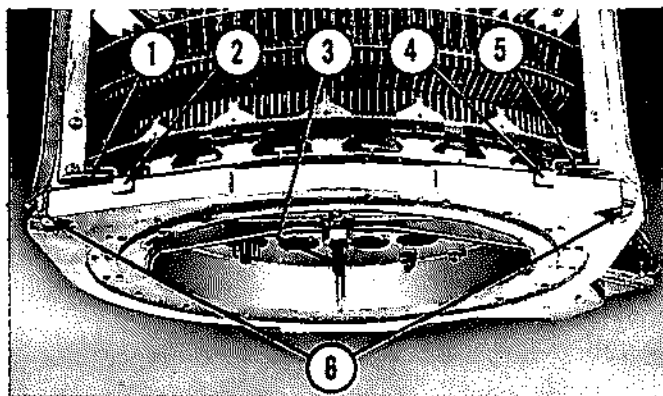
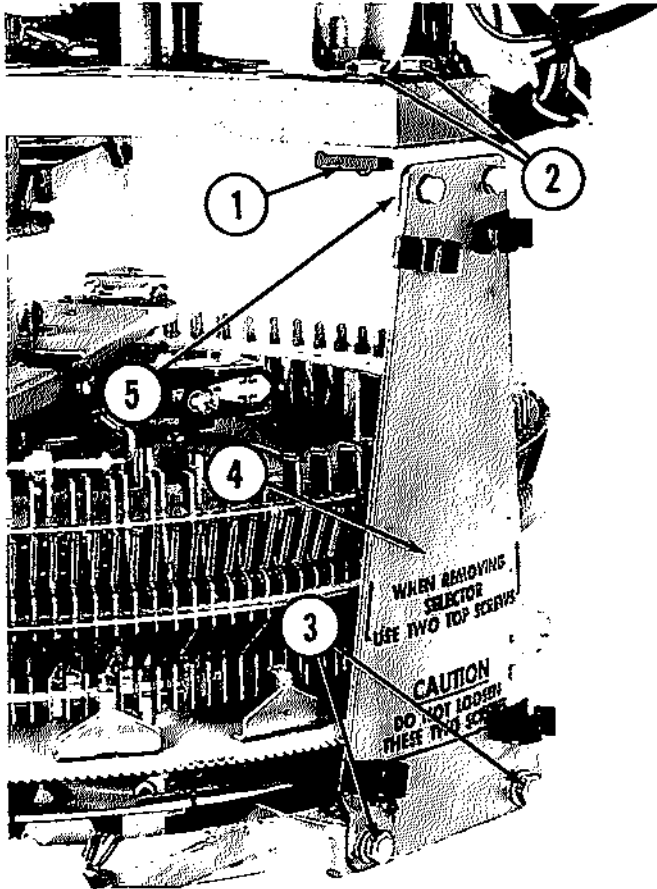
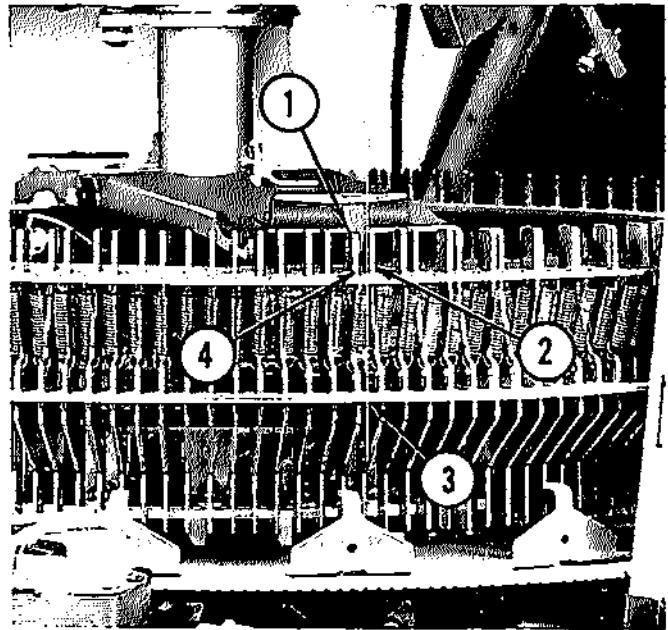
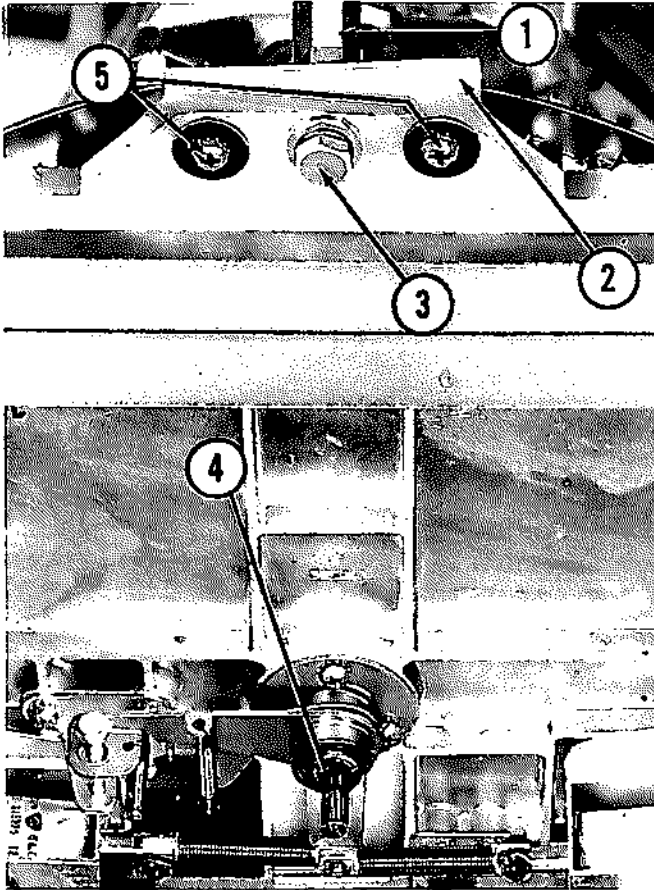

FIG. 27. ELECTRIC SELECTOR CENTERING - 2600
FIG. 28. ELECTRIC SELECTOR ADJUSTMENT - 2600
FIG. 29. ELECTRIC SELECTOR ADJUSTMENT - 2600
FIG. 30. CENTERING OF ELECTRIC SELECTOR - 2610
Centering of the 200 Selection Electric Selector Assembly must be carefully done whenever the Electric Selector Assembly is removed from the Changer Mechanism. The assembly is held in position by two mounting screws (Fig. 27, Item 6) and by the Mounting Plate and Silk Screen Assembly (Fig. 28, Item 4) at the rear of the changer.
(1) To remove the Electric Selector Assembly from the changer mechanism remove the lower and upper rear doors from the cabinet. Disconnect the mute plug from the amplifier, the chassis plug from the junction box and the changer motor plug from the junction box. The cables wired to the plugs disconnected above should be removed from the cable clips on the Support Plate and Silk Screen Assembly (Fig. 28) and placed on top of the chassis mounting plate where they will be out of the work area. Disconnect the four plugs on the bottom of the Electric Selector. Manually rotate the Record Carrier so that the Selector Crank arms are approximately over A0 and L0 selections. Remove the two front Mounting Screws (Fig. 27, Item 6) first, which allows the Electric Selector to rest on the front Guide Brackets (Fig. 27, Items 1 & 5). Loosen the rear top Mounting Screws (Fig. 28, Item 2). Grasp the rear support plate with one hand at the L Bracket (Item 5) and remove the two Top Screws (Item 2). Lower the Support Bracket and rear edge of the Electric Selector far enough to clear the rotary contact wipers on the bottom of the main shaft. With the other hand supporting the Electric Selector from underneath, slowly move the Assembly down and to the rear, carefully removing it from the cabinet.
(2) To install the Electric Selector Assembly after servicing, check to see that the Selector Crank Arms are in the same position as for removal of the assembly. Carefully engage the Brackets (Fig. 27, Items 2 & 4) with the Support Brackets (1 & 5). Use caution to avoid damaging the rotary wiper contacts on the bottom of the main shaft. Lift the rear Support Bracket and insert the Mounting Screws (Fig. 28, Item 2); turning the screws in by hand until the mounting surfaces just make contact.
Insert the Centering Shaft (Fig. 27, Item 3) through the center bushing in the Electric Selector and into the Main Shaft. Note: A No. 2 Phillips Screw Driver may be substituted in place of the Wurlitzer Centering Shaft.
Install the two front Mounting Screws (Fig. 27, Item 6), turning them in by hand until the mounting surfaces make contact. While in this loose condition locate the Electric Selector so that the Centering Shaft (Fig. 27, Item 3) slides freely in and out of the Main Shaft. Carefully maintain this adjustment and tighten the four mounting screws. As a final test for correct centering of the Electric Selector, insert the Centering Shaft (Item 3) into the main Selector Shaft. One full turn of the Record Carrier in a clockwise direction should cause the Centering Shaft to drop out. If the Centering Shaft does not drop out, the mounting screws should be loosened and the assembly re-centered. When centering of the Electric Selector Assembly has been completed the selector crank arm adjustments should be checked and the mechanism checked for correct selections.
(3) When an Electric Selector Assembly must be exchanged on a 200 selection phonograph, the following procedure should be used:
(a) Mount the Electric Selector in accordance with the steps described in paragraph (2) above to the point where the assembly is centered and the four mounting screws are loose. Loosen the two Bottom Screws (Fig. 28, Item 3) which will permit the selector assembly to shift in the elongated mounting holes. Manually turn the Record Carrier until H-1 record compartment is indexed at the left hand Record Lift Arm. Going to the rear of the phonograph, the Tip and Mounting Bracket, on the Selector Crank Arm which engages the inner Selector Pins, will be visible to the left of the rear support plate as shown in Figure 29, Item 1. While in this position the Electric Selector Assembly may be turned in either direction on its mounting to locate H-1 Selector Pin (Item 2) to the right of the Tip (Item 1) on the Selector Crank Arm. The Tip should be approximately on the center line between H-1, the inner pin, and H-2, the outer pin, as shown at Item 3. Maintain this alignment and tighten the lower mounting screws (Fig. 28, Item 3) in the rear support plate. Continue by following the directions under
(1) Centering of this Electric Selector Assembly is normally not required if the original unit is retained with its changer. The assembly may be removed by disconnecting all plugs and removing three screws, one of which is shown in Figure 30, Item 3. The Guide Plates (Item 2) held by the Screws (Item 5) should not be loosened. However, where Electric Selector Assemblies are interchanged the three Guide Plates, one of which is shown in Figure 30, Item 2, should be loosened. The Assembly should
be loosely mounted on the three Studs (Item 1) so that the mounting surfaces make contact. Manually rotate the record carrier until D-5 record compartment is indexed over the left hand record lift arm. Insert the Centering Shaft (Fig. 30, Item 4), Part Number 69247, or a Number 2 Phillips Screw Driver, through the center bushing as shown and into the main shaft. Turn the Electric Selector Assembly to locate D-5 selector pin to the right of the Tip (as viewed from the rear) (Fig. 29, Item 2) on the selector crank arm. The tip should be approximately on the center line between D-5 and D-6 the outer pin. Tighten the Screws (Fig. 30, Item 5) in the three alignment plates and the three Mounting Screws (Item 3). Check the selector crank arm adjustments and check for correct selections.